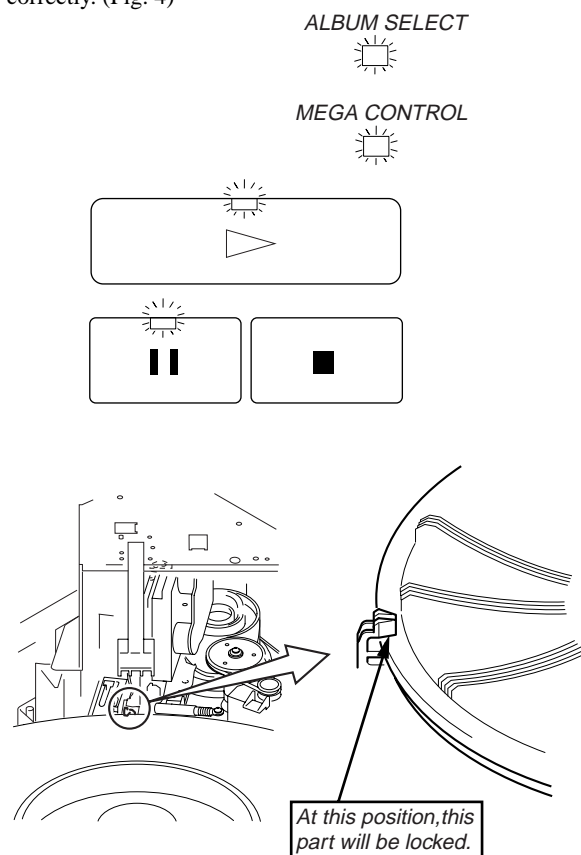

Fig. 3
2. Press the **TOP ARTIST 1** button to operate the loading mechanism, and continue pressing until the disc table locks. (Fig. 3)